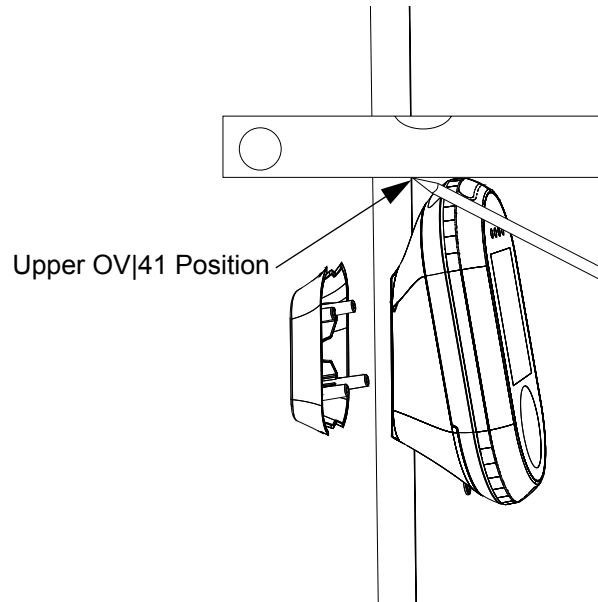

Figure 6-26 Marking Upper OV|41 Position
STEP 1: Mark the upper edge of the OV|41 on the pole. (See **Figure 6-26**)